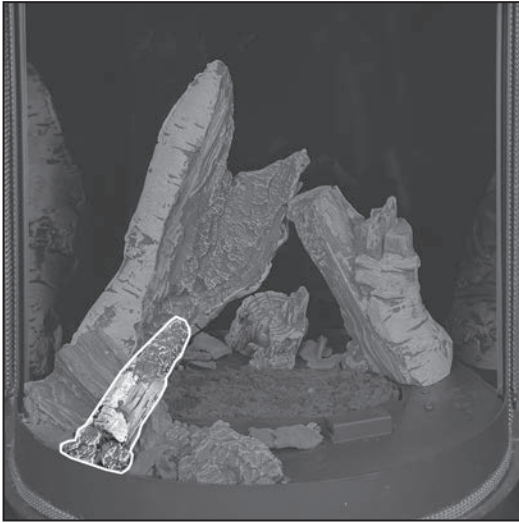

Figure 96: Step 6 - Log 6
**STEP 6:** Place Log 6 atop the flat surface of Log 5; the base should contact the firebox edge. See Figure 96.